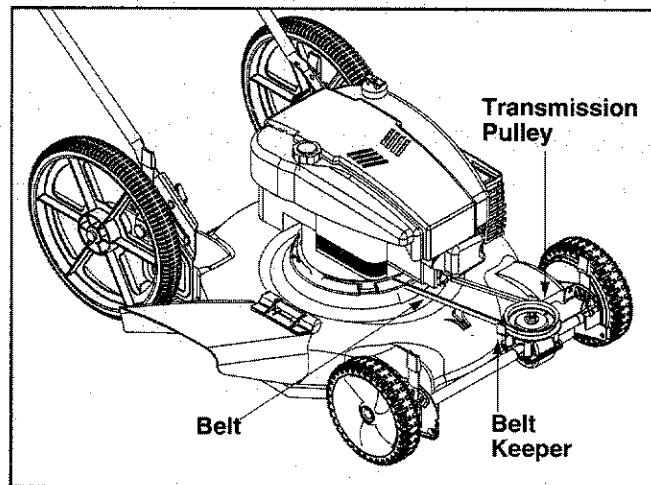

Figure 14
- With the drive system in the disengaged position, the belt can be lifted off the transmission pulley. See Figure 14.
- Make sure belt is routed inside the belt keepers. See Figure 14.